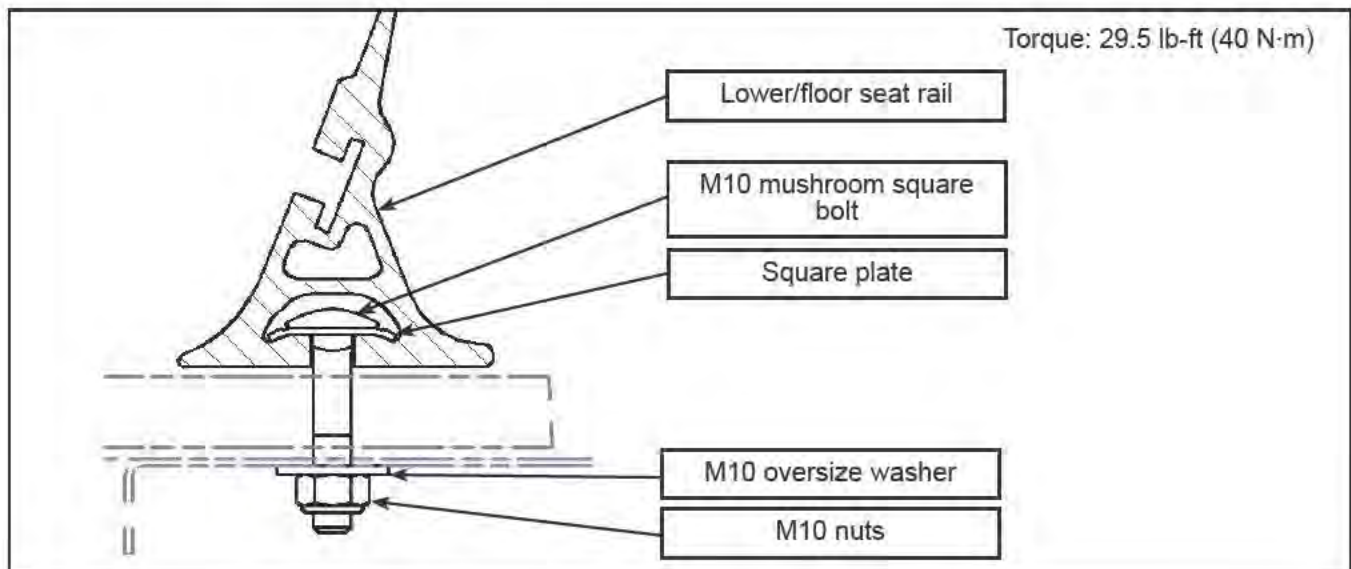

Figure 6 - Lower/Floor Seat Rail
- e. Torque the nuts to the torque value show in Figure 6 and apply torque seal on nuts.